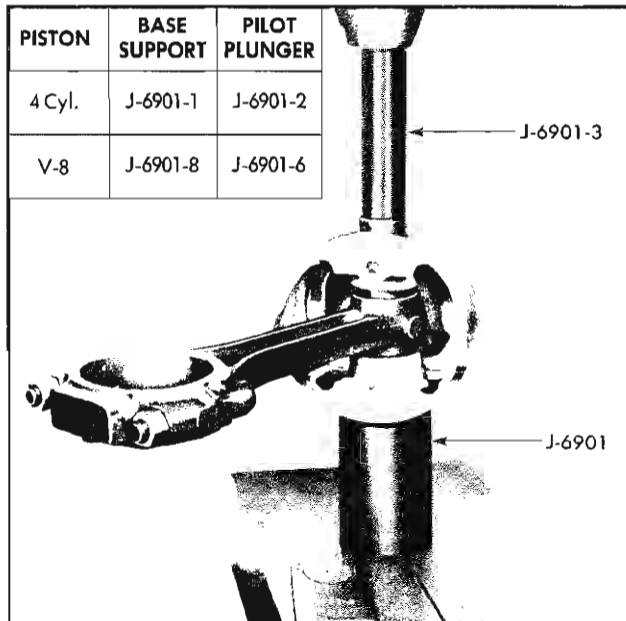

Fig. 6-65 Installation of Piston Pin
1. Place plunger and spring in tool J-6901 (Fig. 6-65) to be used as a pilot and stop.
into piston and connecting rod (Fig. 6-65) until piston pin bottoms against plunger of tool J-6901. Piston must turn freely on pin. If piston binds on pin, disassemble, hone piston bosses slightly and reassemble.